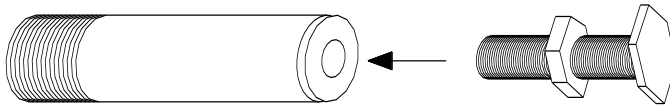

Figure 3.
2. Screw on a 1/2"-13 Nut onto all the supplied leveling bolts. Insert the leveling bolts into the end of the leveling legs, screwing them in until they are all approx. halfway screwed in. see Figure 3.